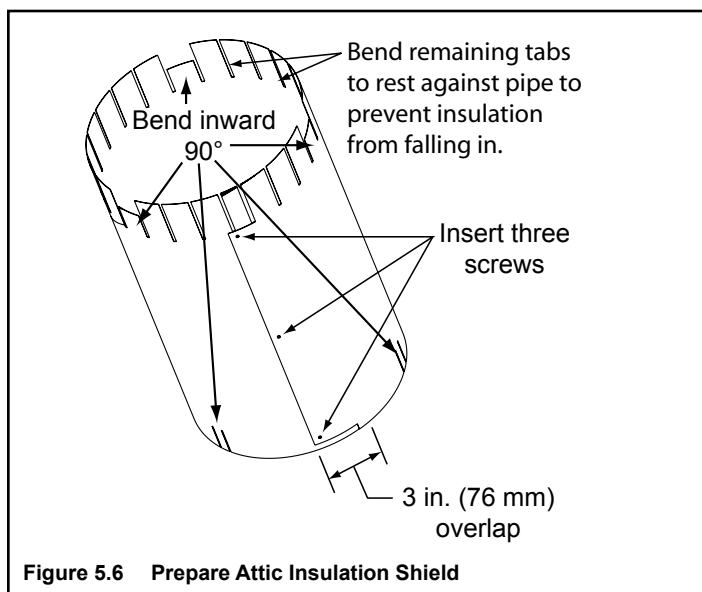

Figure 5.6 Prepare Attic Insulation Shield
- Bend three tabs on the bottom of the tube inward to 90° to maintain chimney clearance. See Figure 5.6.